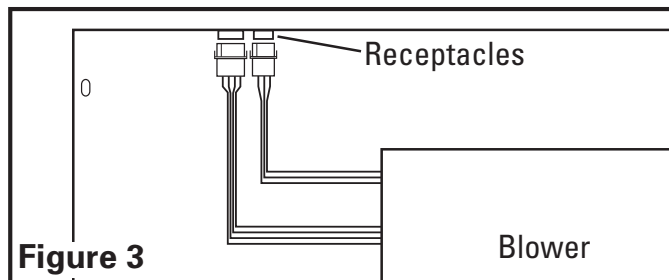

Figure 3
3. Plug both the 3 wire and 4 wire quick connect cords from the blower into the appropriate receptacles located on the inside front of the hood canopy. These cords will only fit into the receptacles one way (**Figure 3**).